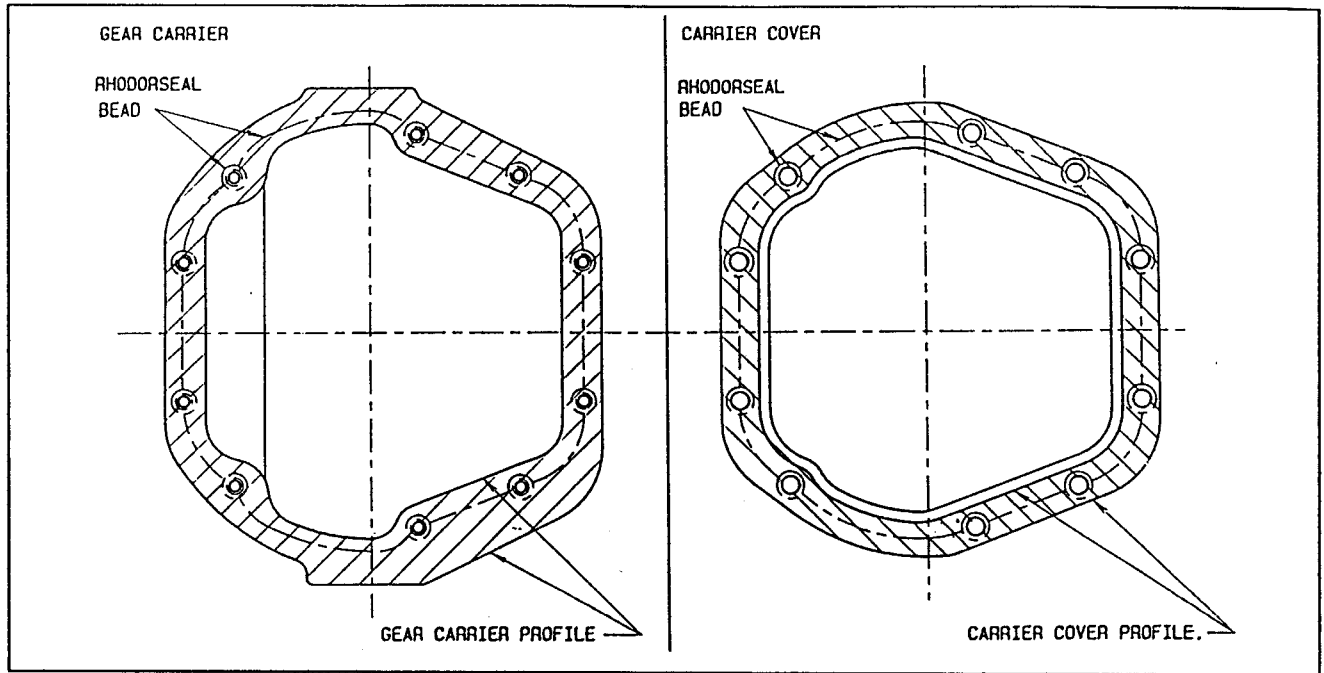

Fig 6. Rear axle cover sealing
5. Referring to Fig. 6, apply a continuous bead of Rhodorseal sealer to either the cover or the axle casing (not both), ensuring that sealer does not penetrate into the bolt holes in the axle casing. Fit the cover within 10 minutes of applying the sealer. Refit the handbrake support bracket and any identification tags and tighten the securing bolts to the correct torque 26-30 Nm (18-22 lbf. ft.).